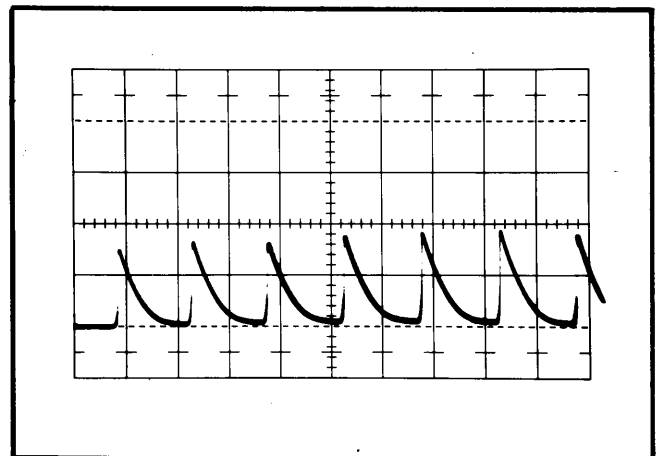

Fig. 6-24. 1 MHz marker display with VIDEO FILTER switched to ON. (Step 18).
- c. Switch on the VIDEO FILTER and check for an attenuated display resembling a sawtooth (see Fig. 6-24).